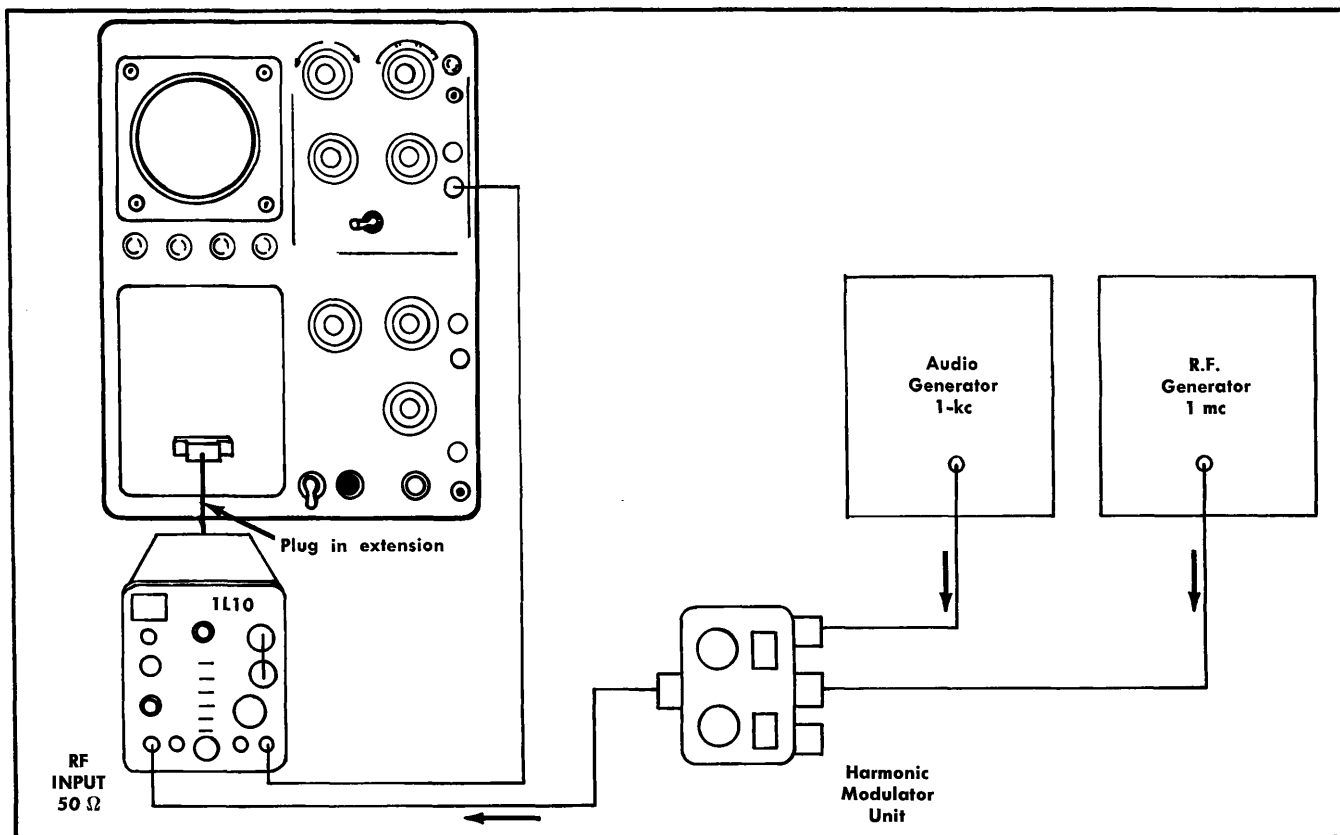

Fig. 4-14. Equipment setup for adjustment of resolution.
a. Connect the equipment shown in Fig. 4-14.